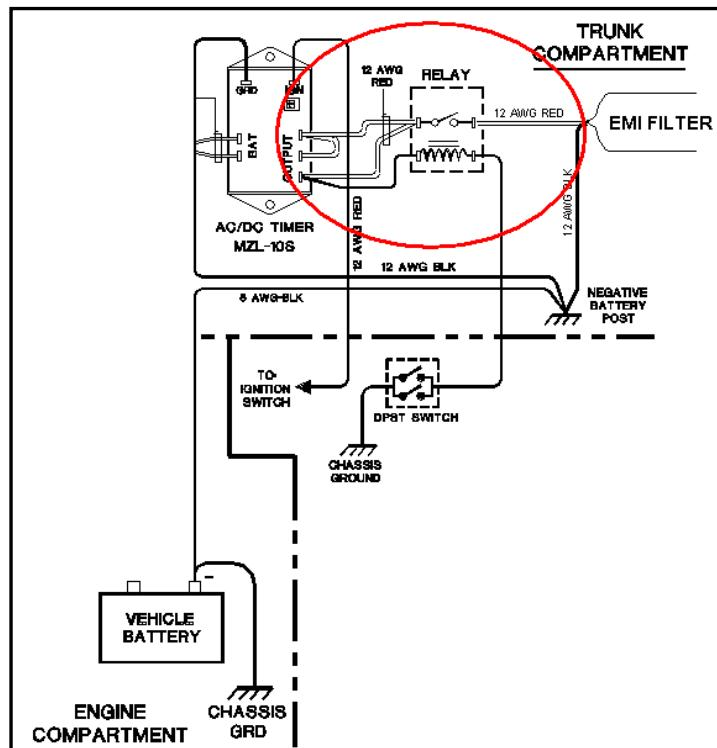

Figure 14: Carling Switch Installation
Step 2 Route and wire a red wire (#12 AWG) from the switch to the Automotive Power Relay (see Figure 14).